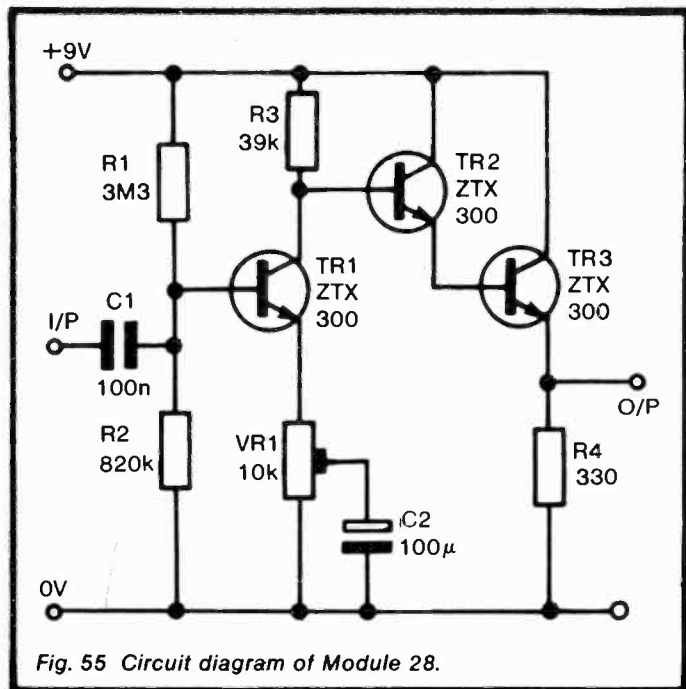

Fig. 55 Circuit diagram of Module 28.
*Circuit diagram:* see Figure 55.